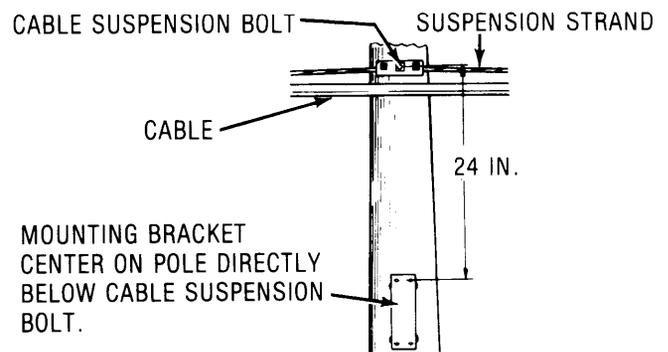
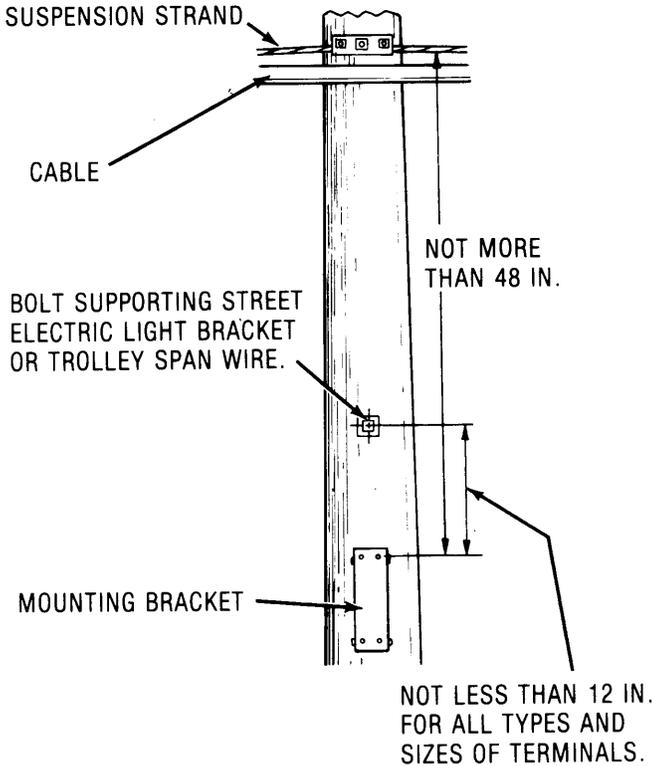

Fig. 2 — Preferred Location of Mounting Bracket on Pole
Fig. 3 — Location of Mounting Bracket on Pole Where Greater Separation is Required
3.01 Where possible, locate the terminal mounting bracket on the cable side of the pole as shown in Fig. 2. If the bracket cannot be placed at the preferred distance of 24 inches below the suspension strand, locate it in accordance with Fig. 3 through 5.